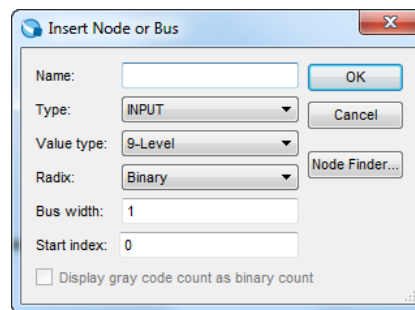
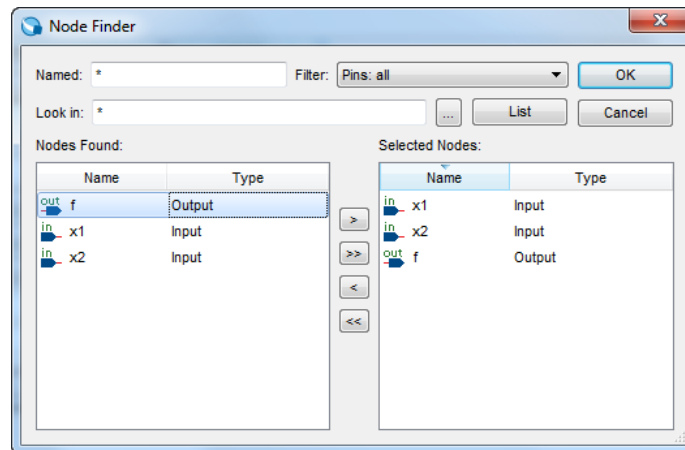
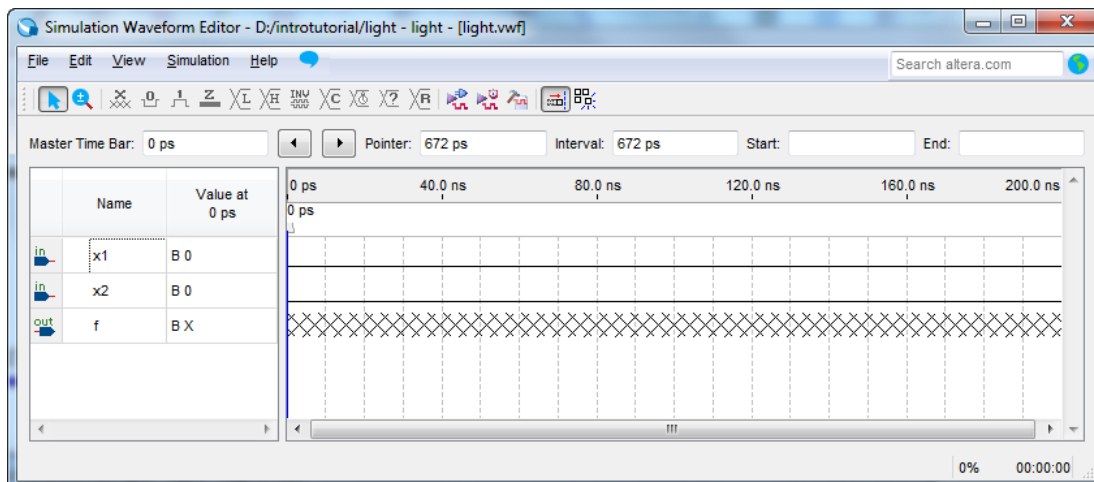

Figure 31. The Insert Node or Bus dialogue.
Figure 32. Selecting nodes to insert into the Waveform Editor.
Figure 33. The nodes needed for simulation.
- Next, we want to include the input and output nodes of the circuit to be simulated. Click **Edit > Insert > Insert Node or Bus** to open the window in Figure 31. It is possible to type the name of a signal (pin) into the Name box, or use the Node Finder to search your project for the signals. Click on the button labeled **Node Finder** to open the window in Figure 32. The Node Finder utility has a filter used to indicate what type of nodes are to be found. Since we are interested in input and output pins, set the filter to **Pins: all**. Click the **List** button to find the input and output nodes as indicated on the left side of the figure.
Click on the $x1$ signal in the Nodes Found box in Figure 32, and then click the > sign to add it to the Selected Nodes box on the right side of the figure. Do the same for $x2$ and f . Click OK to close the Node Finder window, and then click OK in the window of Figure 31. This leaves a fully displayed Waveform Editor window, as shown in Figure 33. If you did not select the nodes in the same order as displayed in Figure 33, it is possible to rearrange them. To move a waveform up or down in the Waveform Editor window, click within the node's row (i.e. on its name, icon, or value) and drag it up or down in the Waveform Editor.